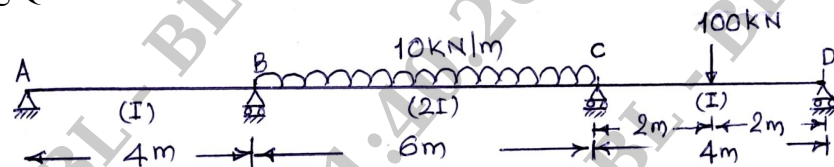

Fig. Q7
- 7 Analyze the continuous beam by using flexibility matrix method. Draw BMD, SFD and elastic curve. Refer Fig.Q7. (20 Marks)